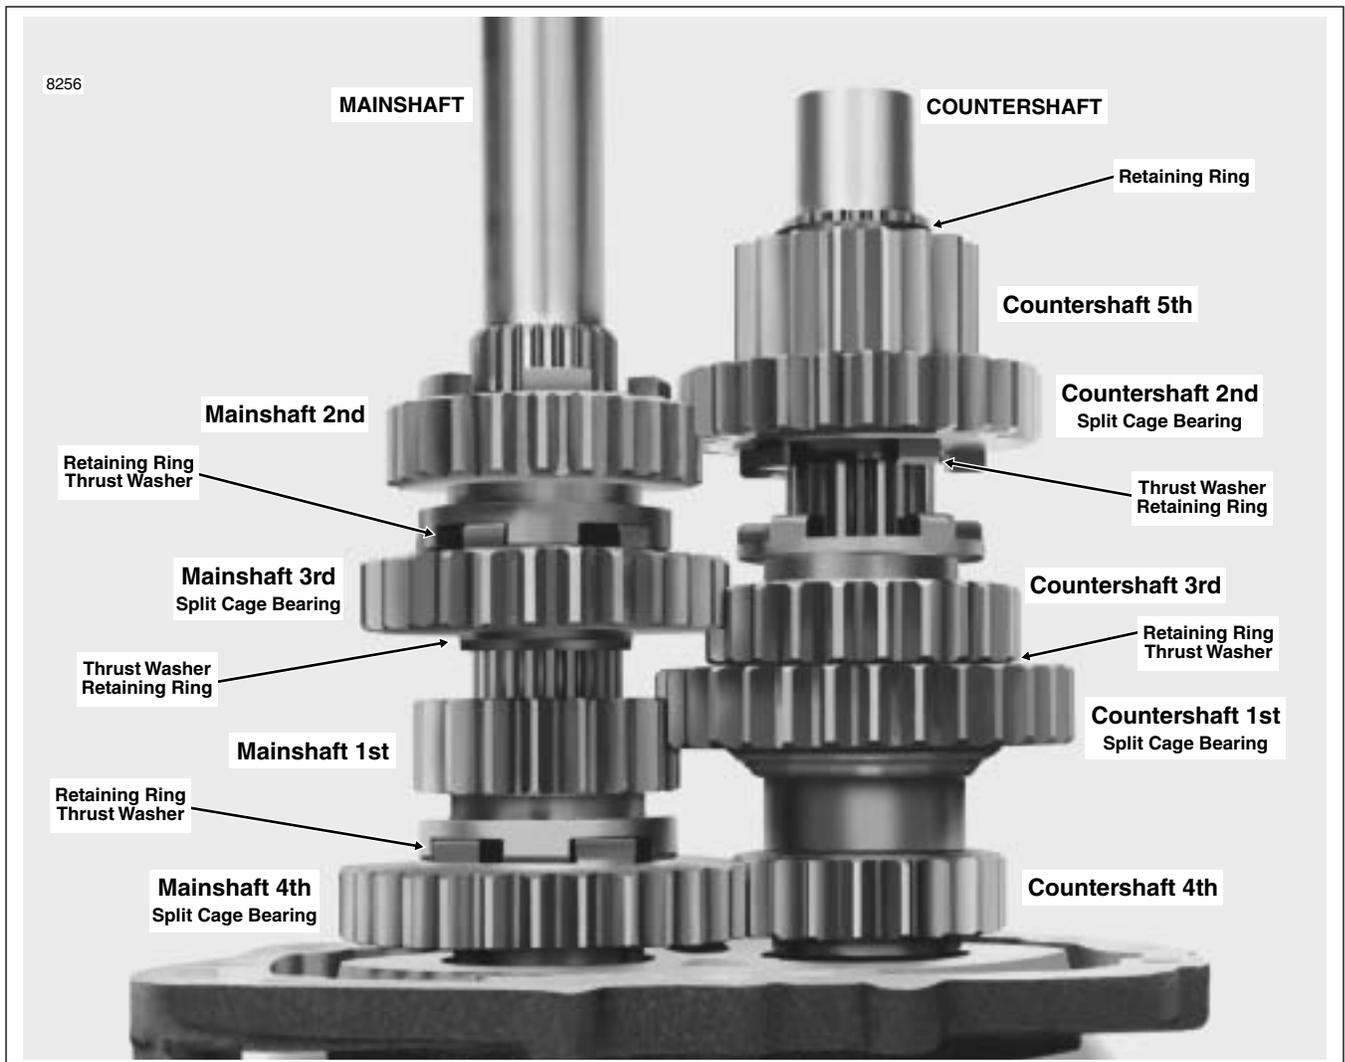

Figure 7-24. Completed Side Door Assembly
8. See Figure 7-24. Install countershaft 3rd gear with the shifter fork groove facing opposite the side door.
- The final assembly appears as shown in Figure 7-24.